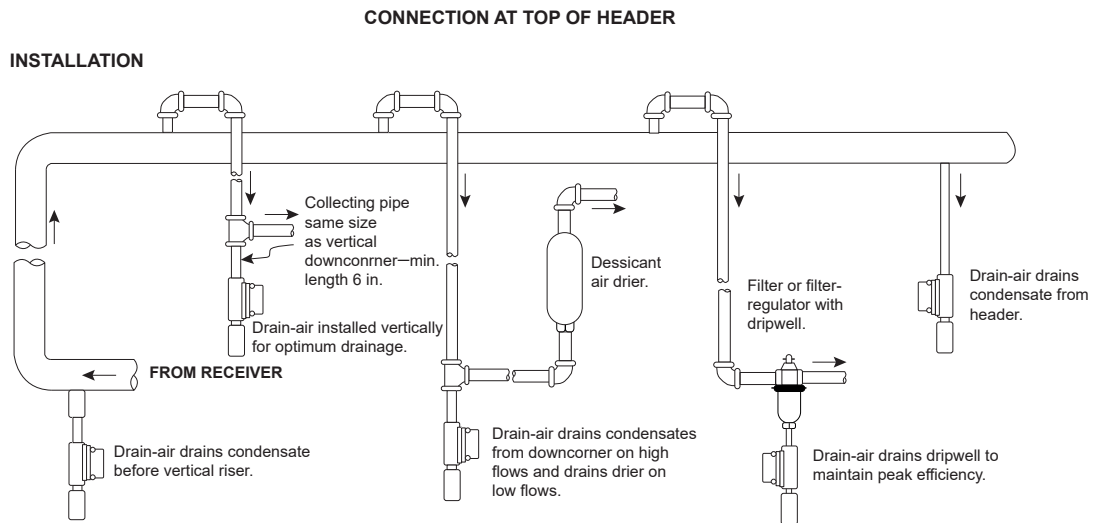

Figure 4. Typical Installations of Drain Air
1. Install Drain Air at lowest point of equipment or line in vertical position with outlet facing down. Arrow on body bottom shows flow line, see Figure 4 for typical installations.